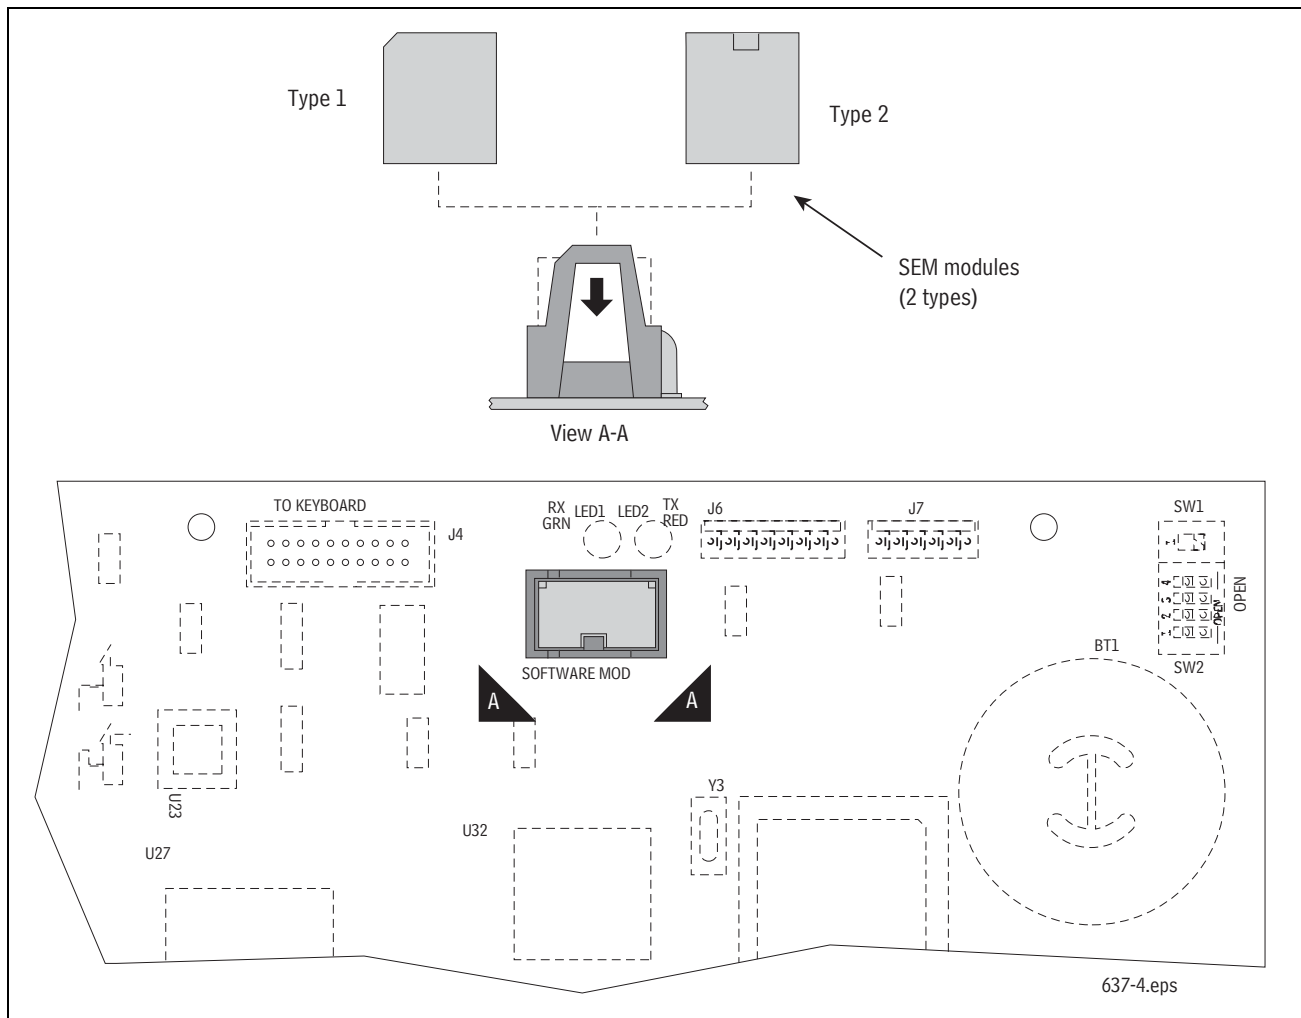

Figure 13. Replacing SEM Module
3. Replace the SEM as shown in Figure 13. Note: Either type SEM will only plug in one way.